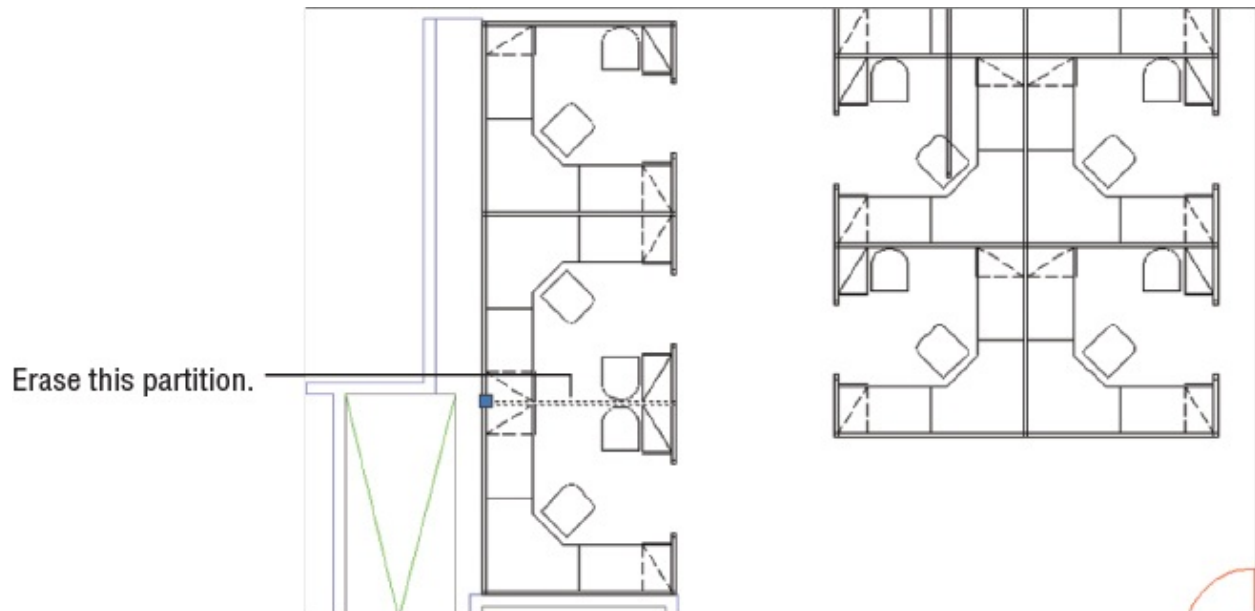

FIGURE 4.20 Remove the partitions between the two workstations.
2. Erase the short partition that divides the two workstations, as shown in Figure 4.20. Since you made a mirror copy of the original workstation, you'll need to erase two partitions that are overlapping each other, the original and the copy.